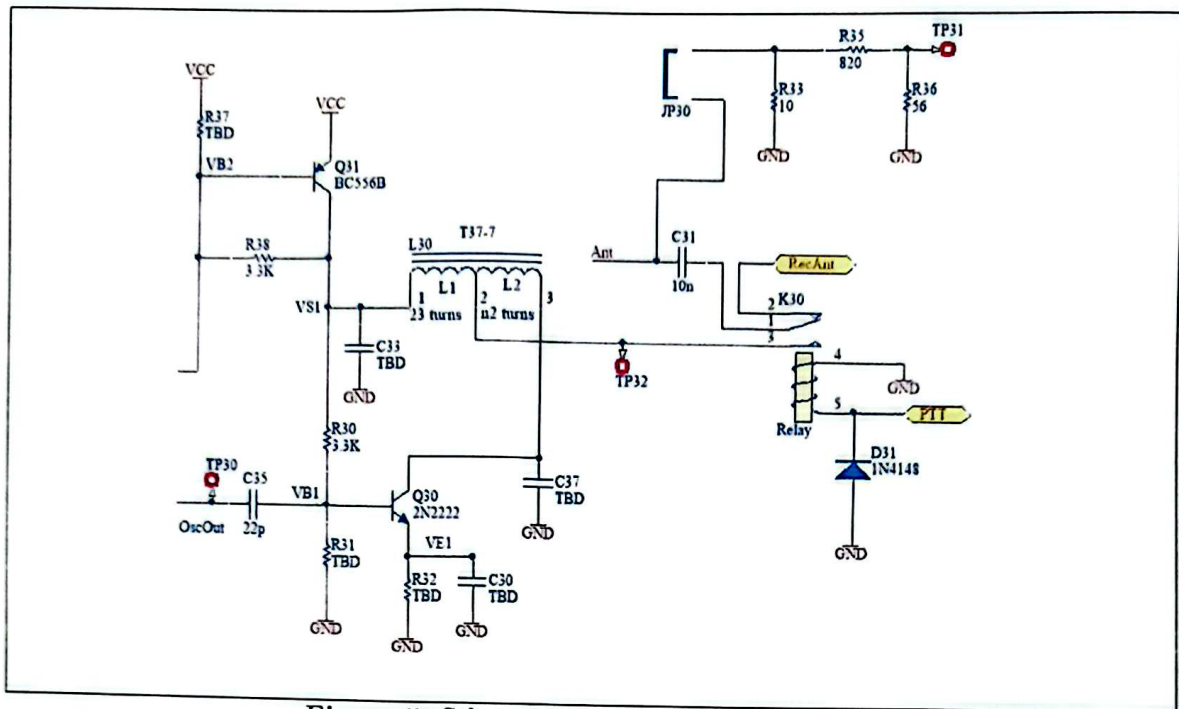

Figure 5: Schematic of transmitter amplifier.
- The tuned RF amplifier to be mounted is the transmitter (TX) amplifier operating at 27 MHz. This circuit is given in Fig. 5. L30 is a tapped inductance. The number of turns of L2 is determined in the preliminary work. It is supposed to transform the impedance of 10Ω to the optimum load resistance of the transistor. Cut 40 cm of 0.35 mm enameled wire to wind L1 and L2 on the T37-7 toroid. T37-7 is a core with an outer diameter of 0.37 inches or 9.4 mm (see p. 384). The windings should be single-layer without scrambles. Randomly wound coils do not perform well. The increased capacitance between the windings has a detrimental effect on the inductance performance. Count the turns of